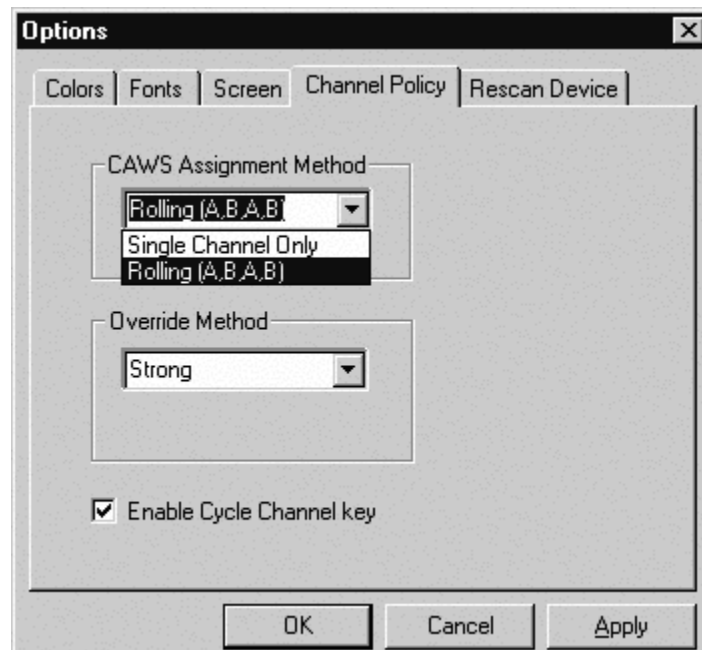

Figure 21 Options Dialog Box Channel Policy Tab
2. Select the Channel Policy tab, as shown in Figure 21.